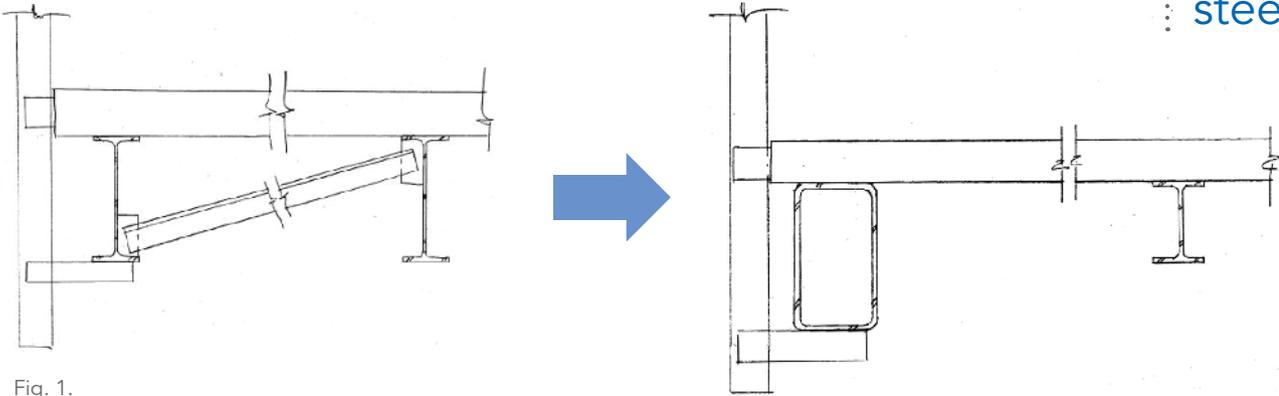

Fig. 1.
- Spandrel condition and curved beams: A common scenario where HSS can be advantageous for torsion resistance is spandrel beams, which often experience torsional loads from cladding or precast plank framing. These eccentric loads can be efficiently resisted by HSS without needing additional kickers, potentially offering a more cost-effective solution due to reduced ancillary pieces and coordination issues (Figure 1 and 2). Curved beams also inherently experience torsion due to their curvature.